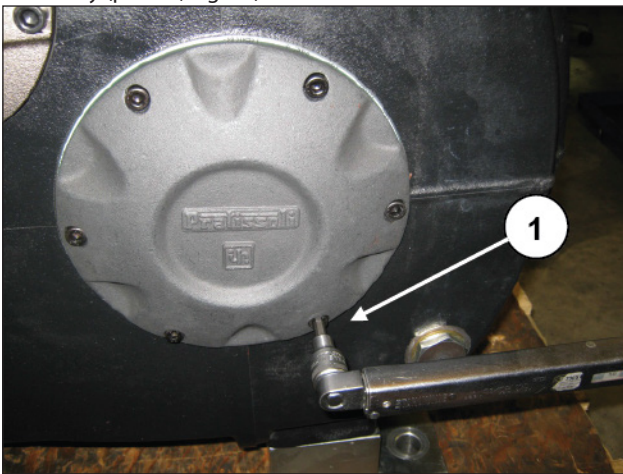
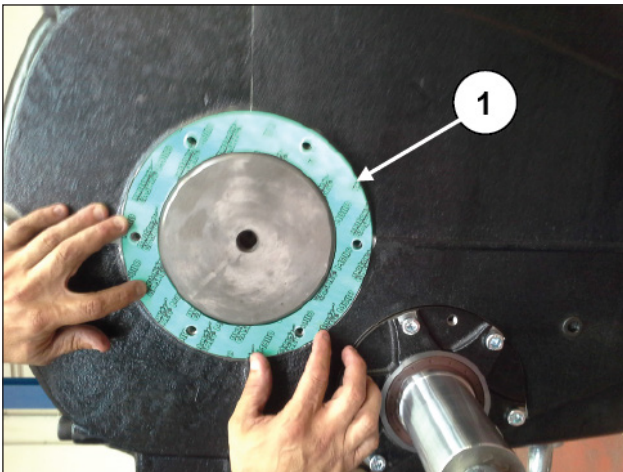

Fig. 12
Fig. 13
Remove the crankshaft cover by undoing the associated screws (pos. ①, Fig. 12) remove the flat gasket and replace it if necessary (pos. ①, Fig. 13).